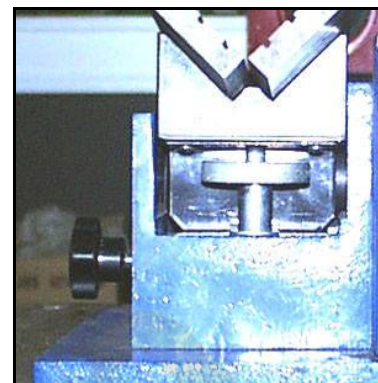

Figure 6 – Adjustment commands
To set the desired depth of chamfer, the adjusting screw (ref. 10 in figure 6) should be operated as follows:
1. unlock the adjustment screw by unscrewing the locking knob (ref. 11 in figure 6);
2. rotate the adjustment screw (ref. 10), until the inserts of the milling cutter touch the workpiece;
4. once the depth of the chamfer has been determined, lock the locking knob (ref. 11).